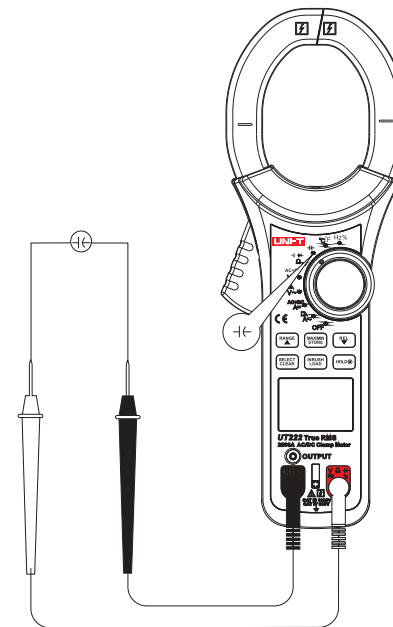

Figure 9
6. Capacitance measurement (See Figure 9)